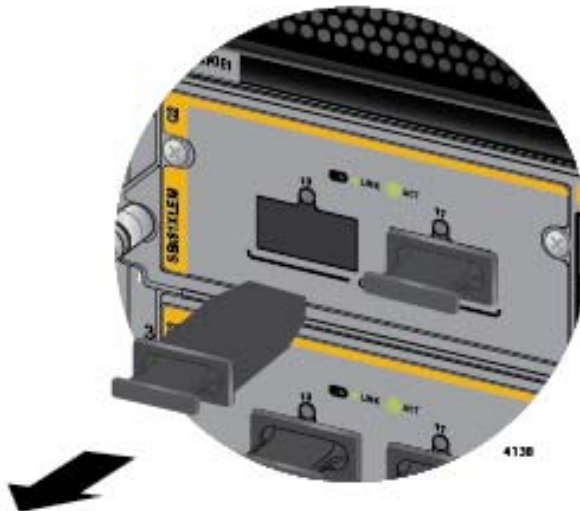

Figure 112. Removing the Dust Cover from a Slot on the AT-SBx81XLEM/Q2 Expansion Module
1. Remove the dust cover from a slot on the AT-SBx81XLEM/Q2 Expansion Module. Refer to Figure 112.
1. Remove the dust cover from a slot on the AT-SBx81XLEM/Q2 Expansion Module. Refer to Figure 112 on page 172.